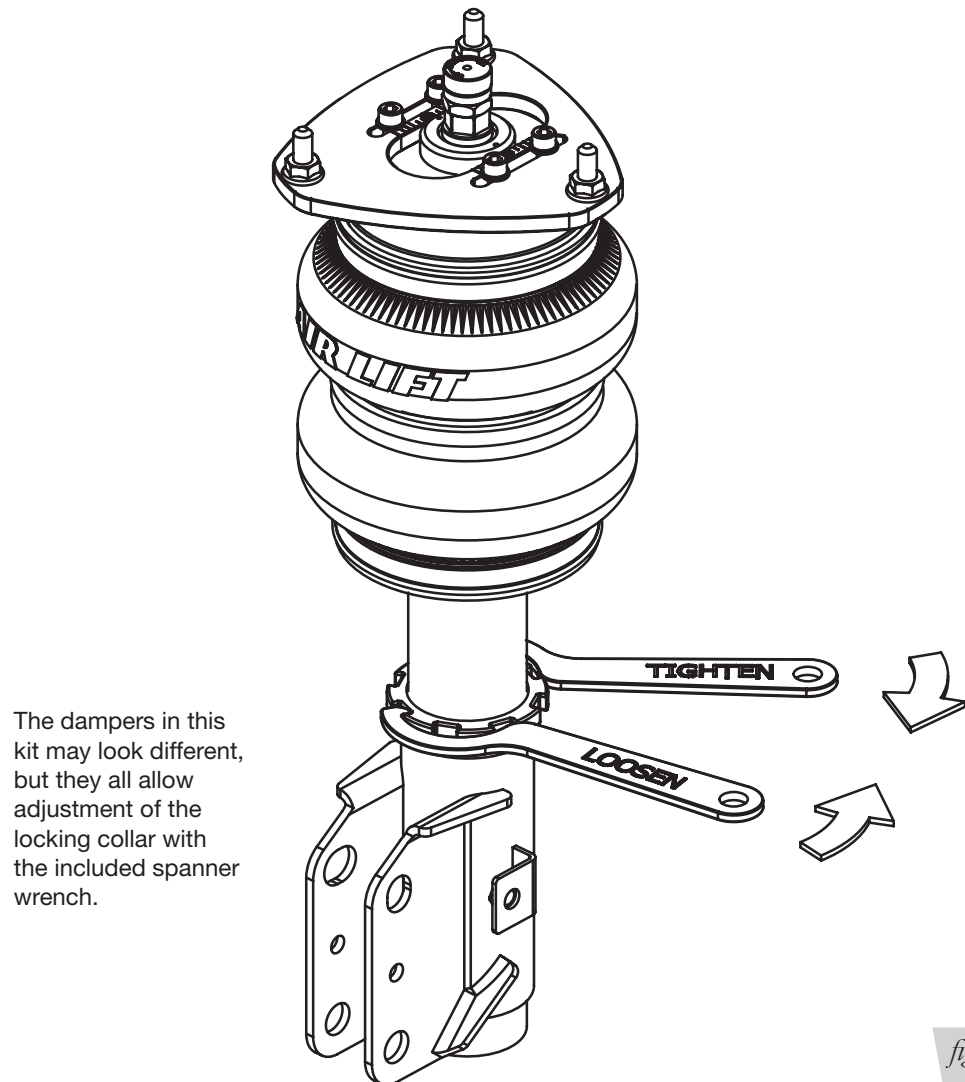

fig. D.4
3. Using the supplied spanner wrench, loosen the locking collar. (Fig. D.4)